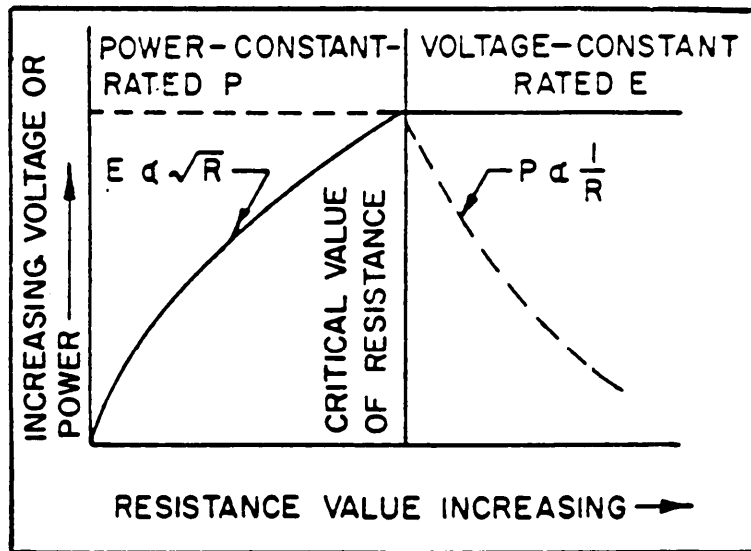

FIGURE 1. Maximum working voltage and critical value of resistance.
- c. Critical value of resistance. For a given voltage rating and a given power rating, there is only one value of resistance that will dissipate full rated power at rated voltage. This value of resistance is commonly referred to as the "critical value of resistance." For values of resistance below the critical value, the maximum (element) voltage is never reached and, for values of resistance above critical value, the power dissipated becomes lower than rated. Figure 1 shows this relationship.
- g. Maximum (element) working voltage ( $E = \sqrt{PR}$ ). The maximum voltage stress (dc or rms) that may be applied to the resistor (resistance element) is a function of (1) the materials used, (2) the required performance, and (3) the physical dimensions. (See figure 1.)